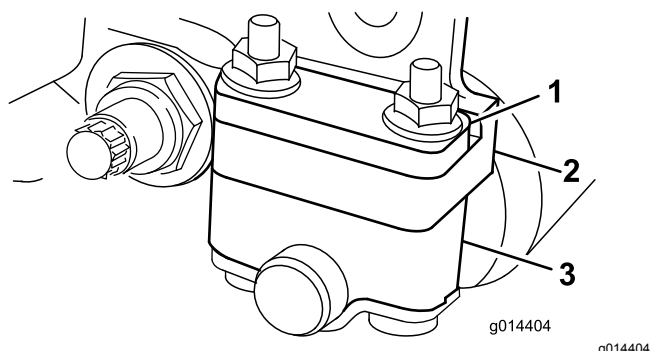
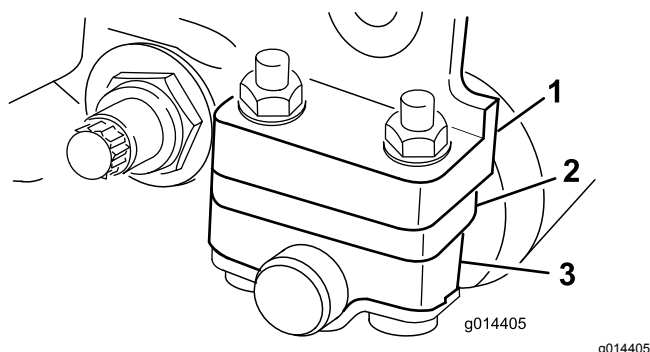

Figure 6
Figure 7
Depending on your desired height-of-cut range you need to adjust the rear roller brackets (Figure 6 or Figure 7) to the low or high position:
- Position the spacer above the sideplate mounting flange (factory setting) when the height-of-cut settings range from 1.5 mm to 6 mm (1/16 inch to 1/4 inch) as shown in Figure 6.
- Position the spacer below the sideplate mounting flange when the height of cut settings range from 3 mm to 25 mm (1/8 inch to 1 inch) as shown in Figure 7.
- Place the spacers onto the screws above of below the roller brackets, as required (Figure 6 or Figure 7).